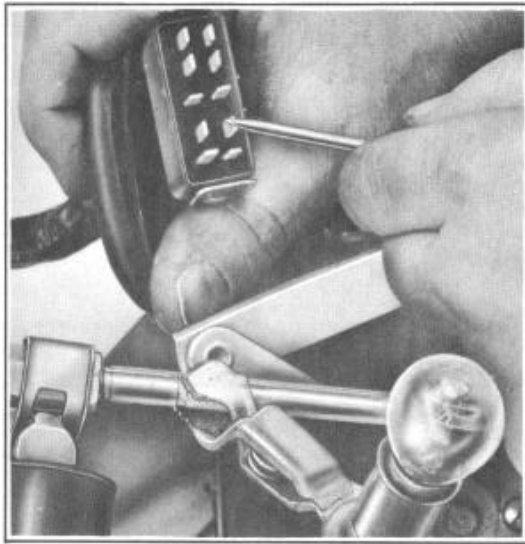

FIGURE 52
G. If lamp does not light, remove the ten prong plug from transmission control switch and connect a test lamp from No. 8 prong to a ground Figure 52.